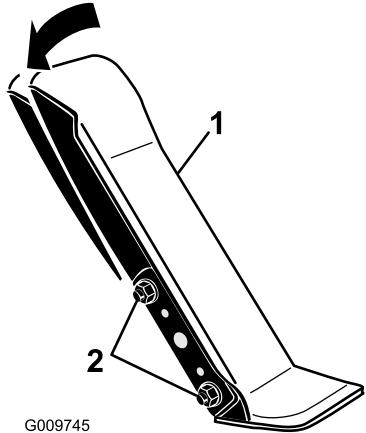

Figure 93
1. Loosen the 2 nuts and bolts securing the left side of the traction pedal to the bracket (Figure 93).
2. Pivot the pedal to the desired operating angle and tighten the nuts (Figure 93).